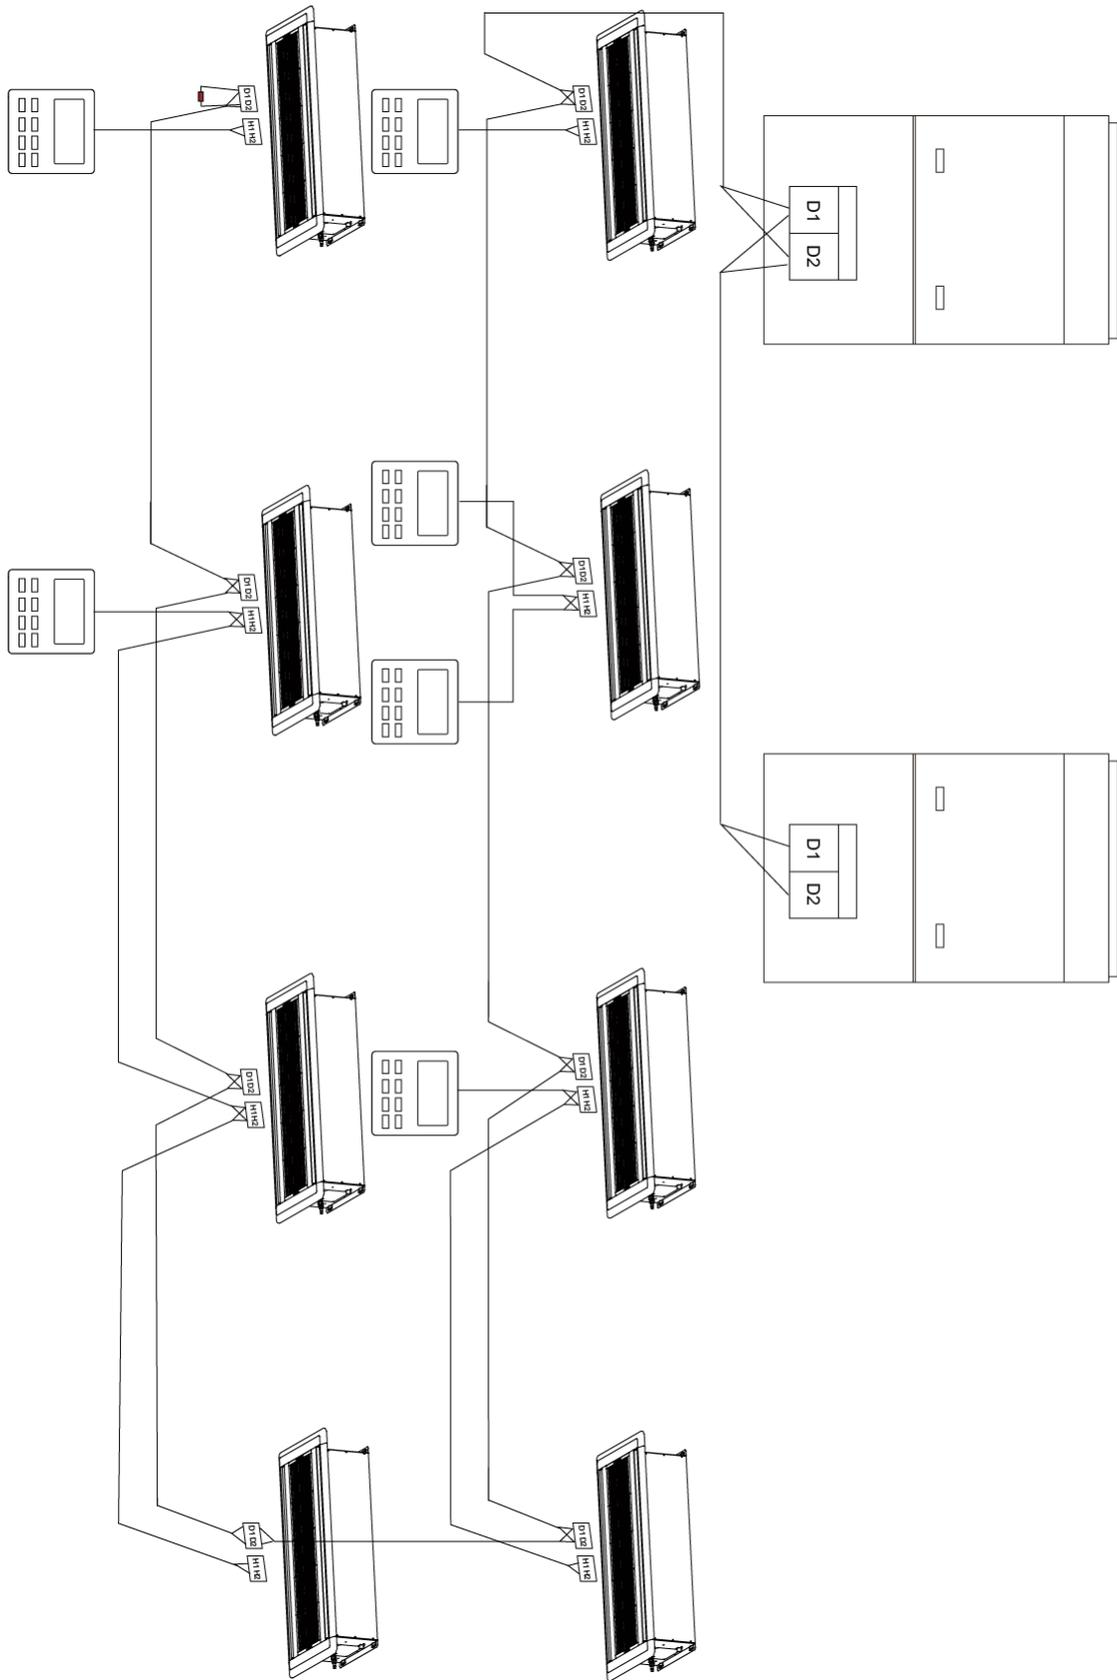

Fig. 5.5.1
- (1) Communication wire of indoor unit and outdoor unit (or indoor unit) is connected to D1, D2.
- (2) Wired controller is connected to H1, H2.
- (3) One indoor unit can connect two wired controllers that must be set as master one and slave one.
- (4) One wired controller can control 16 indoor unitS in maximum at the same time. (As shown in Fig.5.5.1).